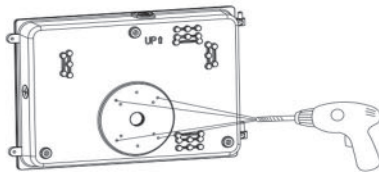

Fig. 1-2A
- 2.Drill an installation hole at the bottom of fixture, paste the EVA mat.(Fig. 1-2A&B)